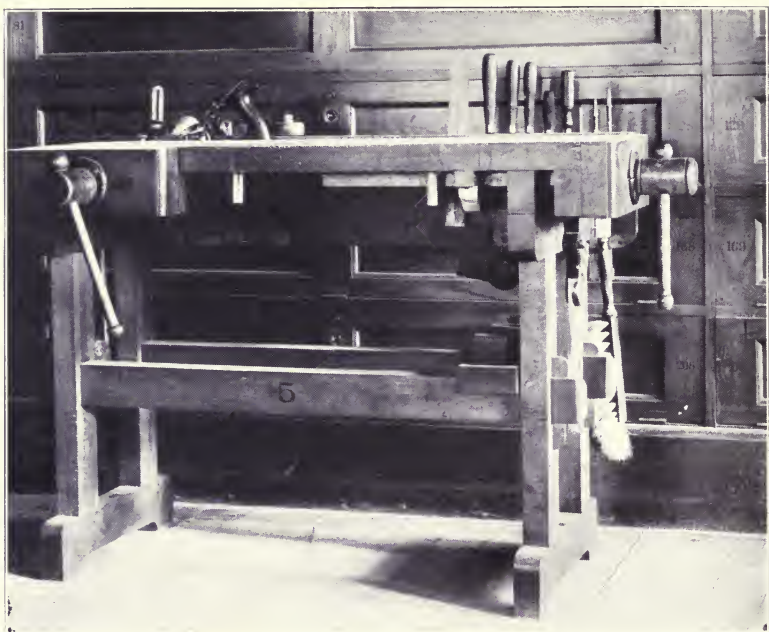
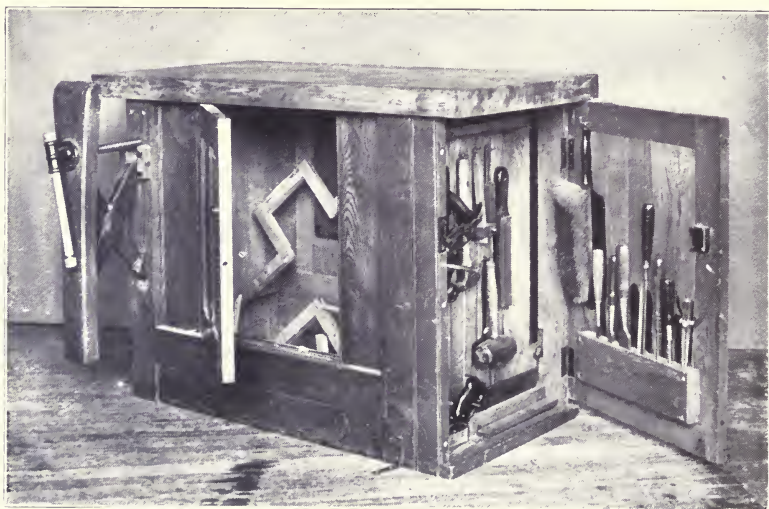
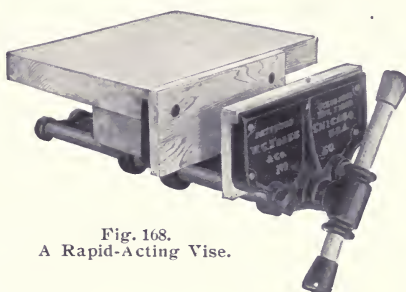

Fig. 166. Bench Made with Pinned Mortise-and-Tenon Joints, Low Back.
Fig. 167. Woodworking Bench Used at Pratt Institute, Showing Self-Adjusting Upright Vise.
Fig. 168.
been common in school benches to affix it to a board, which rises considerably above the top of the bench, Fig. 169, but a better plan is to have the top of it no higher than the bench-top, Fig. 166. Then the light on the bench is not obscured, and when a flat top is needed for large work it can readily be had by removing the tools. Elaborate benches with lock drawers are also much used in the shops of large city schools.
Vises for holding wood are of three general styles, (1) those with an upright wooden jaw, Fig. 167, which holds wide pieces of work well. They are now made with an automatic adjusting device by which the jaw and the face of the bench are kept parallel; (2) wooden vises with a horizontal jaw, guided by parallel runners, Fig. 166, and, (3) metal rapid-acting vises, Fig. 168. The latter are the most durable and in